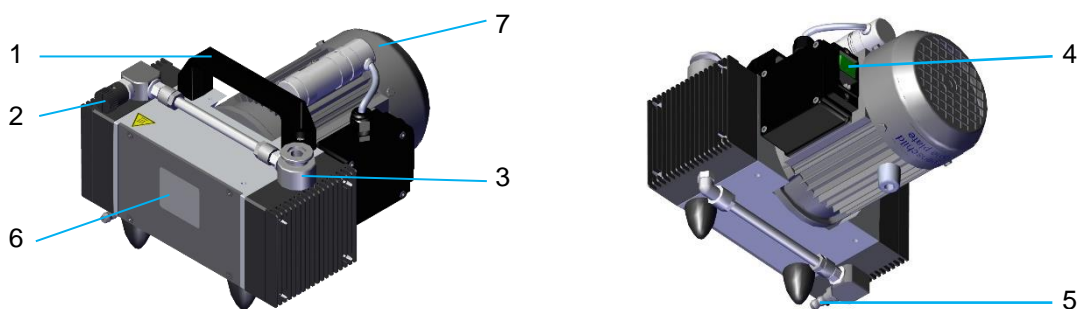
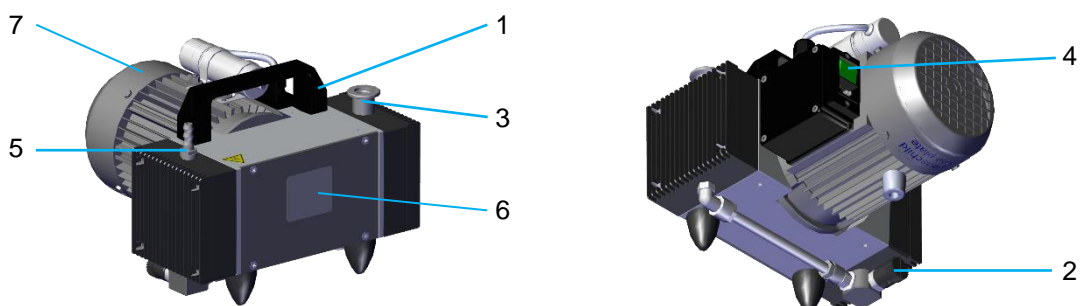

Fig. 4-1. Model MPC 603 E, front (left) and rear (right) view
Fig. 4-2. Model MPC 303 Z, front (left) and rear (right) view
1. Connect input (Fig. 4-1/3, Fig. 4-2/3).
2. Connect output (Fig. 4-1/5, Fig. 4-2/5) if required.